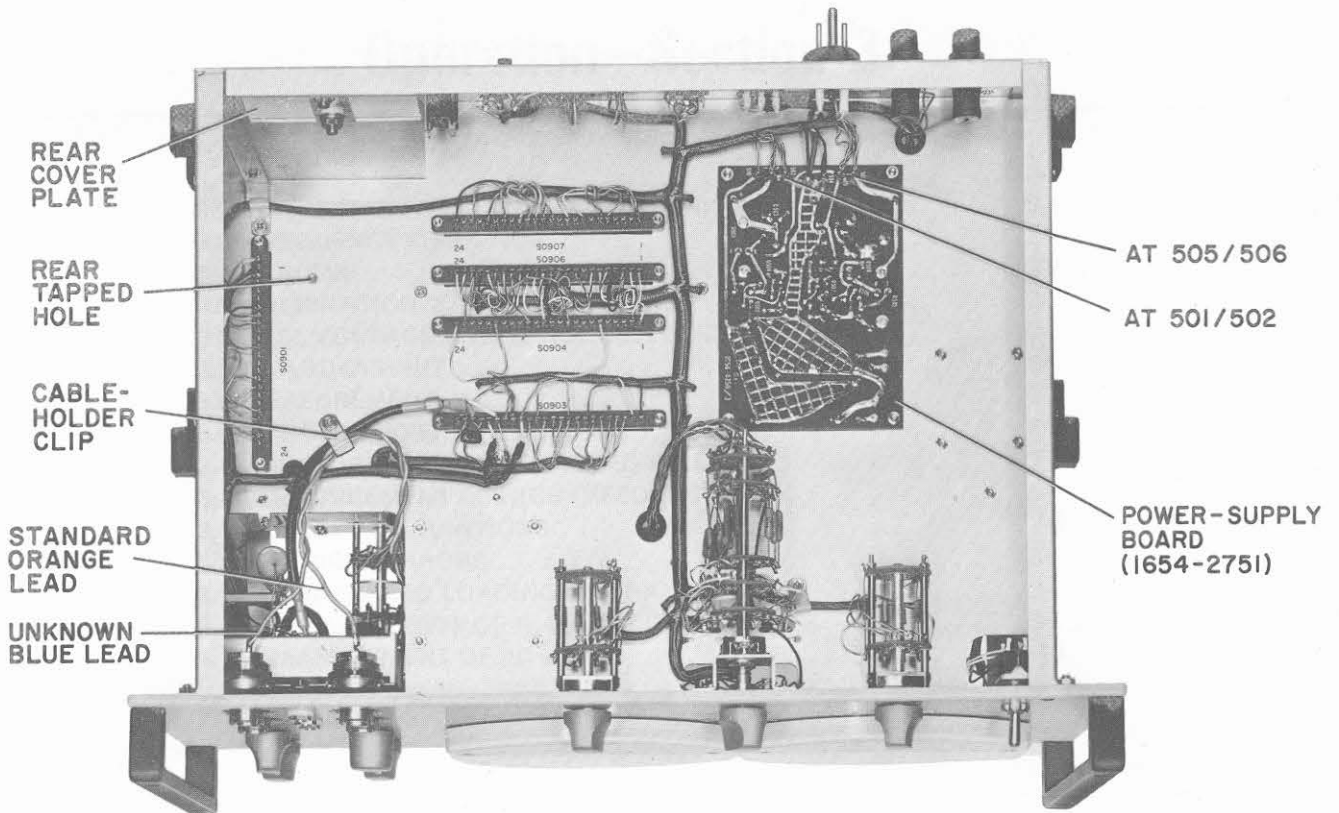

Figure 2-8. Bottom interior of 1654 with connectors installed in the front panel.
f. Refer to Figure 2-8. Remove the plastic cable-holder clip with a Phillips-head screwdriver and retain all parts.
i. Install the plastic cable-holder clip, previously removed in step f, in the rear tapped hole (see Figure 2-8).